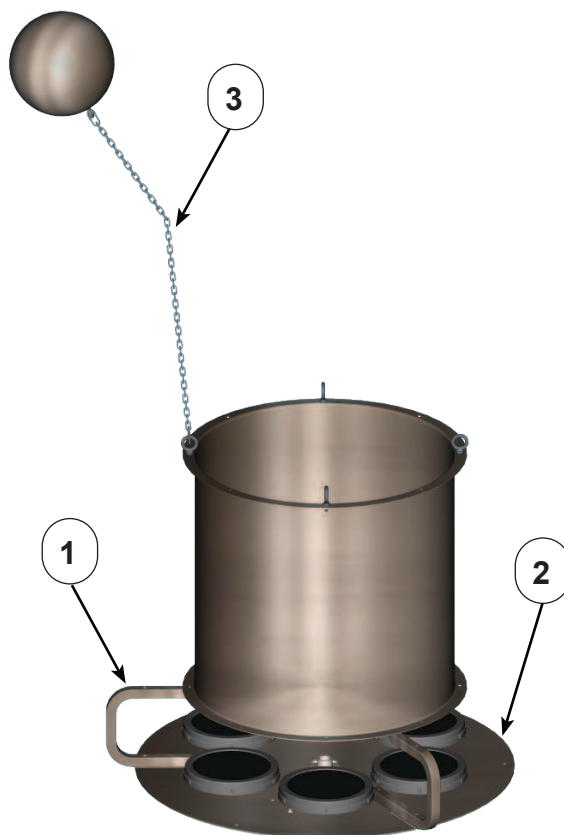

Figure 1: AP Unit Pedestal Configuration
3. Attach the Optional 10" Float Ball with retrieval chain to the housing to one of the eyebolts with the quicklinks provided. (See Figure 1)